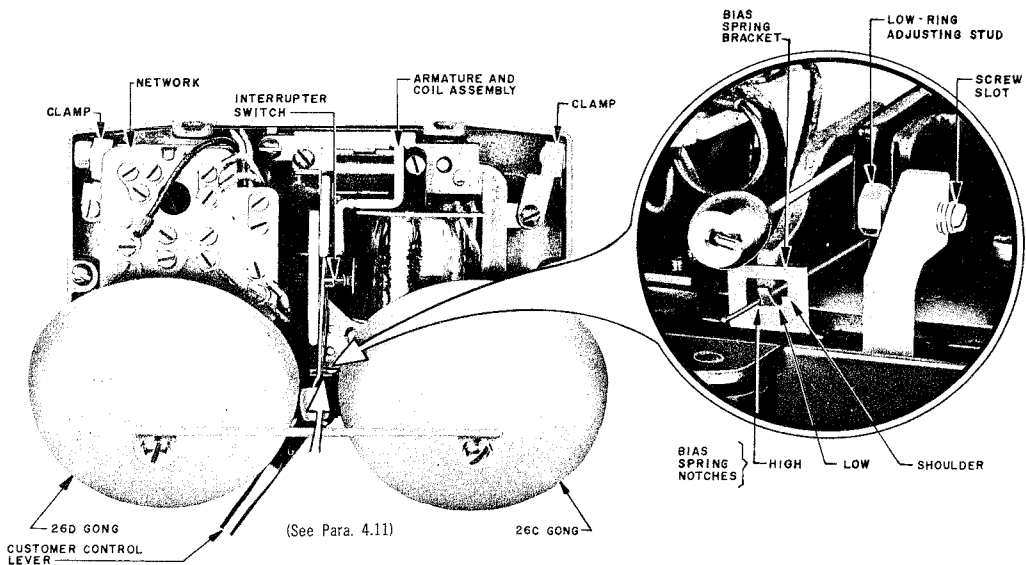
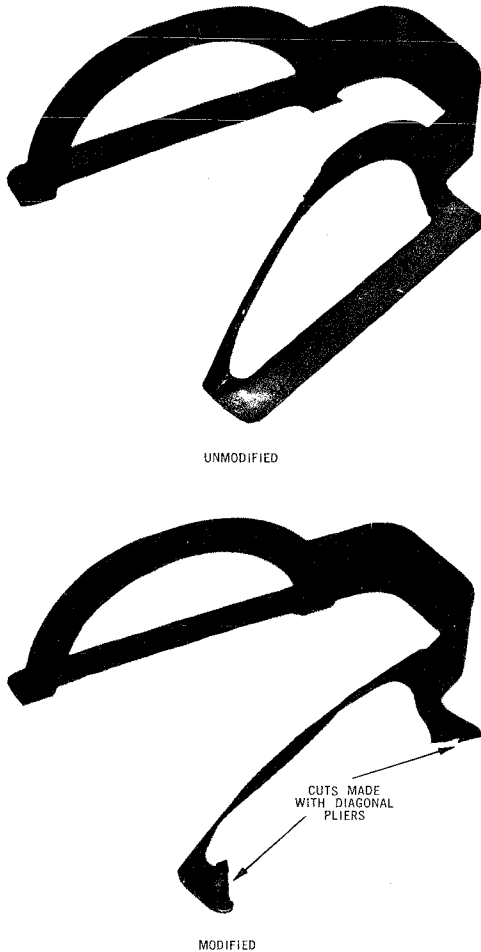

Fig. 2 — QCY1A1 Bell Chime — Components
Fig. 5 — 110 B Gong Attachment
Remove the QCY1A1 Bell Chime from the shipping carton with care prior to installation to avoid changing the adjustment of the interrupter switch assembly (Fig. 2). Handle the Bell Chime using the stop bar attached to the two gongs. Keep the Bell Chime in a plastic bag in the shipping carton prior to installation and when removed from service.
4.11 Adjust the volume of the low ring by moving the adjusting stud (Fig. 2) right or left; use a small screwdriver in slotted end located beneath the right gong. The volume of the Bell Chime can be toned down in all three positions by the use of the 100B Gong Attachment modified as shown in Fig. 5.